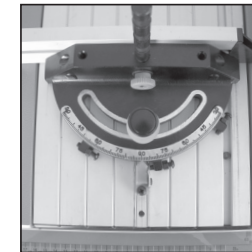

FIG. 20
- 90° - Ensure that the 'stop plate' is in the down position and the 90° index screw is resting against its RH side. (Fig. 20)